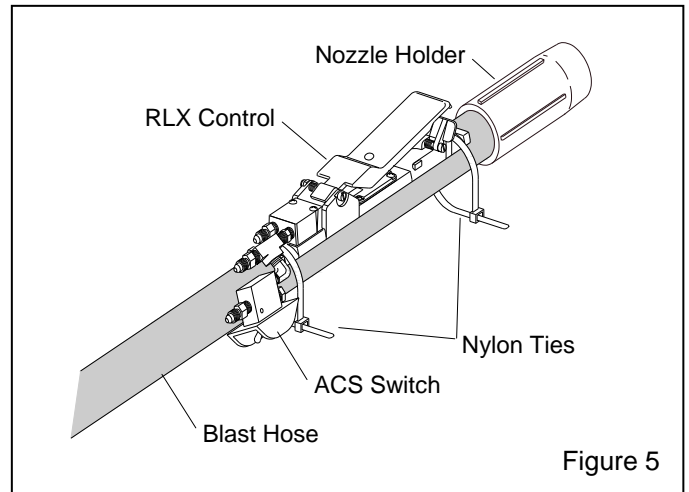

Figure 5
2.3.2 Installing Pneumatic Controls to Blast Hose Refer to Figure 5.
2.3.2.2 Band the control handle to the blast hose close to the nozzle holder as shown in Figure 5. Use the two nylon ties provided or similar means to secure the control handle to the hose. Once the control is firmly attached, clip the tie ends so they do not snag the operator's clothing or interfere with the operation of the control handle.